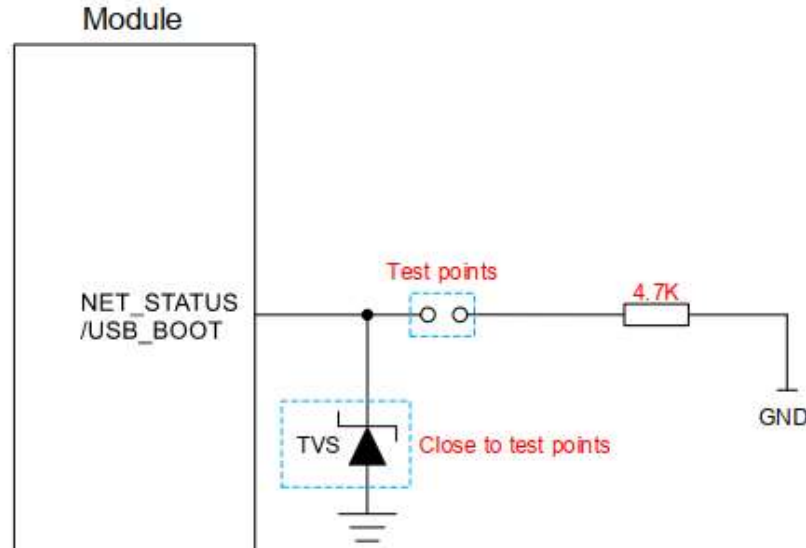

Figure 4-2: Reference Circuit of USB_BOOT Interface
- When using MCU to control module to enter the emergency download mode, please follow the above timing sequence. Directly connect the test points as shown in Figure 4-2 can manually force the module to enter download mode.